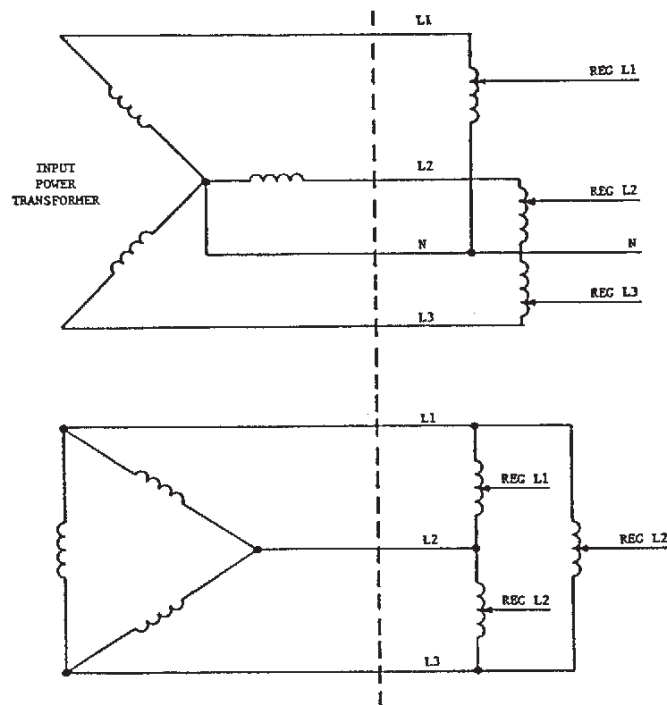

Figure b-3. Regulators in Delta and 4/Wire WYE Systems
- Remedy - Automatic voltage regulators, preferably individual regulators on each phase. This can only be accomplished when the power feed line is delta or 4/wire wye connected. (See Figure b-3.)